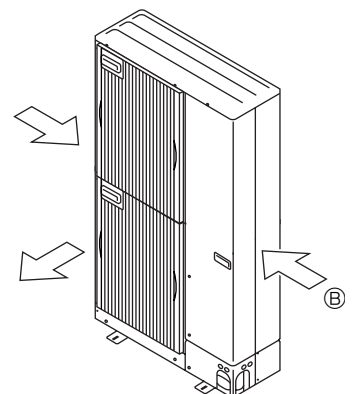

Fig.2-3
- Position the unit so that the air outlet blows perpendicularly to the seasonal wind direction, if possible. (Fig. 2-3)